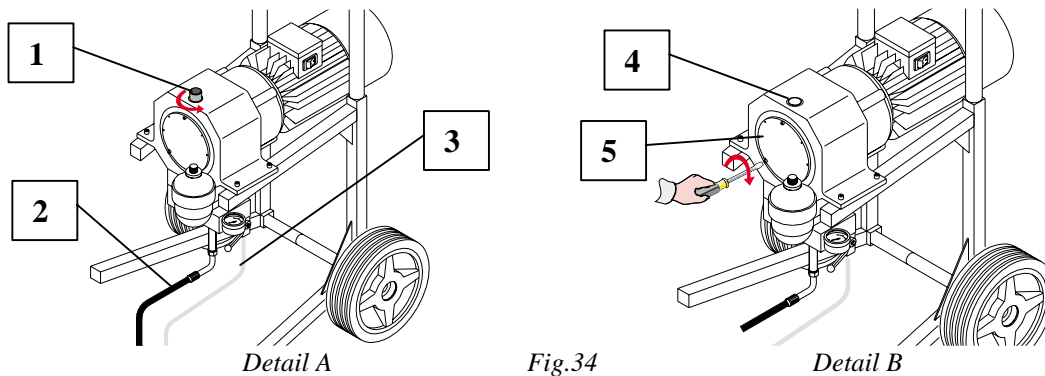

Fig.34
- a) Remove the oil level cap (1, fig. 34).
- b) Unscrew the discharge cap placed under the pump casing and let the oil flow out (2, fig. 34).